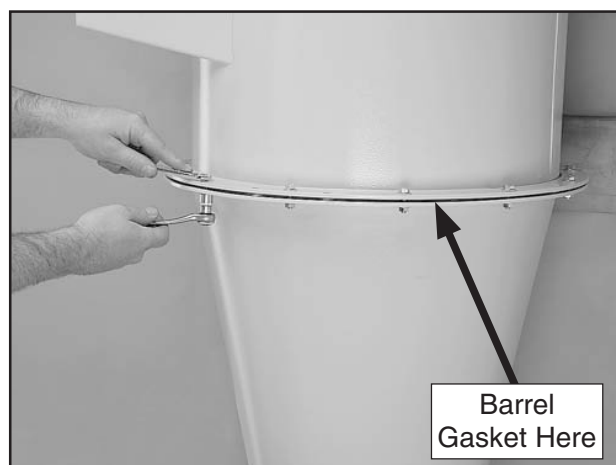

Figure 21. Cyclone funnel attached to intake barrel.
8. Attach the cyclone funnel to the intake barrel with a barrel gasket between them, as shown in **Figure 21**, using (12) $\frac{5}{16}$ "-18 x 1" hex bolts, (24) $\frac{5}{16}$ " flat washers, and (12) $\frac{5}{16}$ "-18 hex nuts; also secure the wall mounting brace to the lip of the intake barrel/funnel assembly with the same hardware.